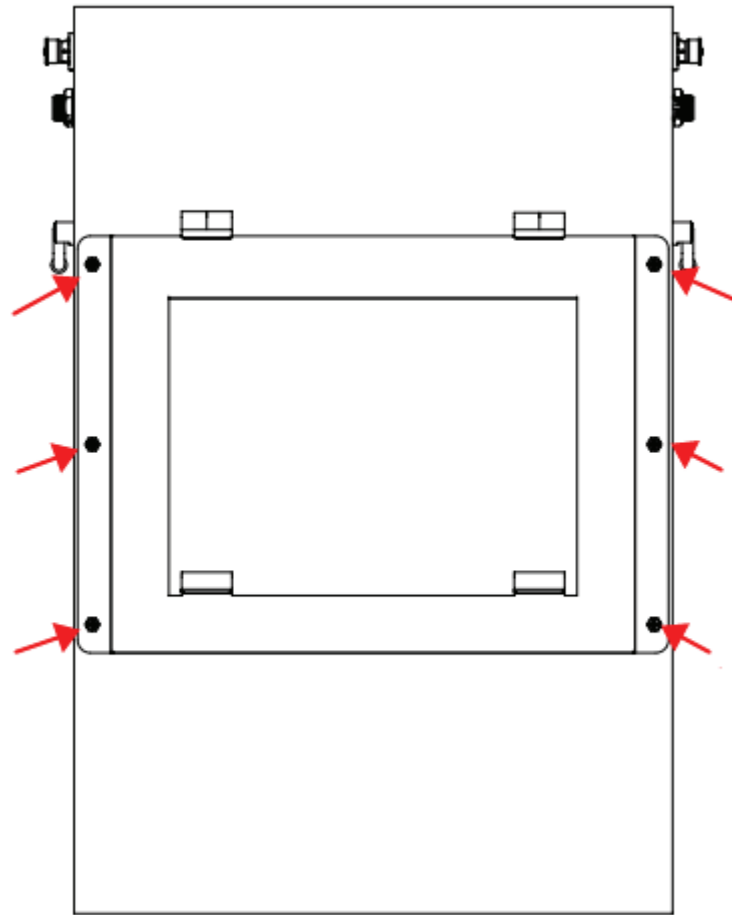

Figure 5-1
- a) Use the 6 screws of M6*10 to fix the backplane to the back of the battery as shown in Figure 5-1.